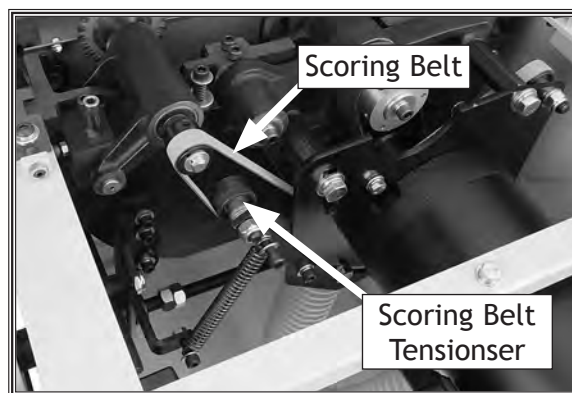

Figure 119. Replacing the scoring motor belt (table removed for clarity).
4. Pull the tensioner away from the scoring belt (**Figure 119**) to relieve belt tension and remove the scoring belt from the pulleys.